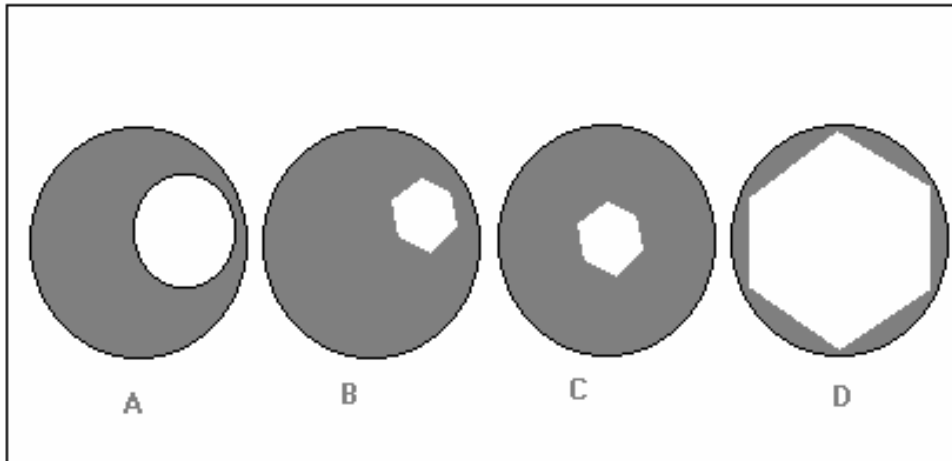

Figure 1
- B. With a specimen in sharp focus using the 10x objective, close the field diaphragm until it impinges on the field of view, Figure 1, Picture A.
- C. Focus the condenser using the side mounted rack and pinion controls until the leaves of the diaphragm are in sharp focus, Figure 1, Picture B.
- D. Using the condenser centration controls move the diaphragm into the centre of the field of view, it may help to open it until it is nearly touching the outside of the field to attain perfect centration, Figure 1, Pictures C & D.
- F. Fully open the condenser diaphragm and then slowly close it until you see the contrast within the image increase. If you then remove an eyepiece and look directly down the tube from a distance of 20-30cm you should see an image similar to picture D in Figure 1. The aim here is to have the “bright” area occupying approximately 70% of the total field. The amount it occupies will change dependant on the objective lens in use. If you have set up the instrument using the 10x objective (recommended) then as you increase the magnification this diaphragm will need opening to optimise the contrast and resolution. Often it is set for the objective which is either most frequently used or most critical in terms of resolution and left in that position